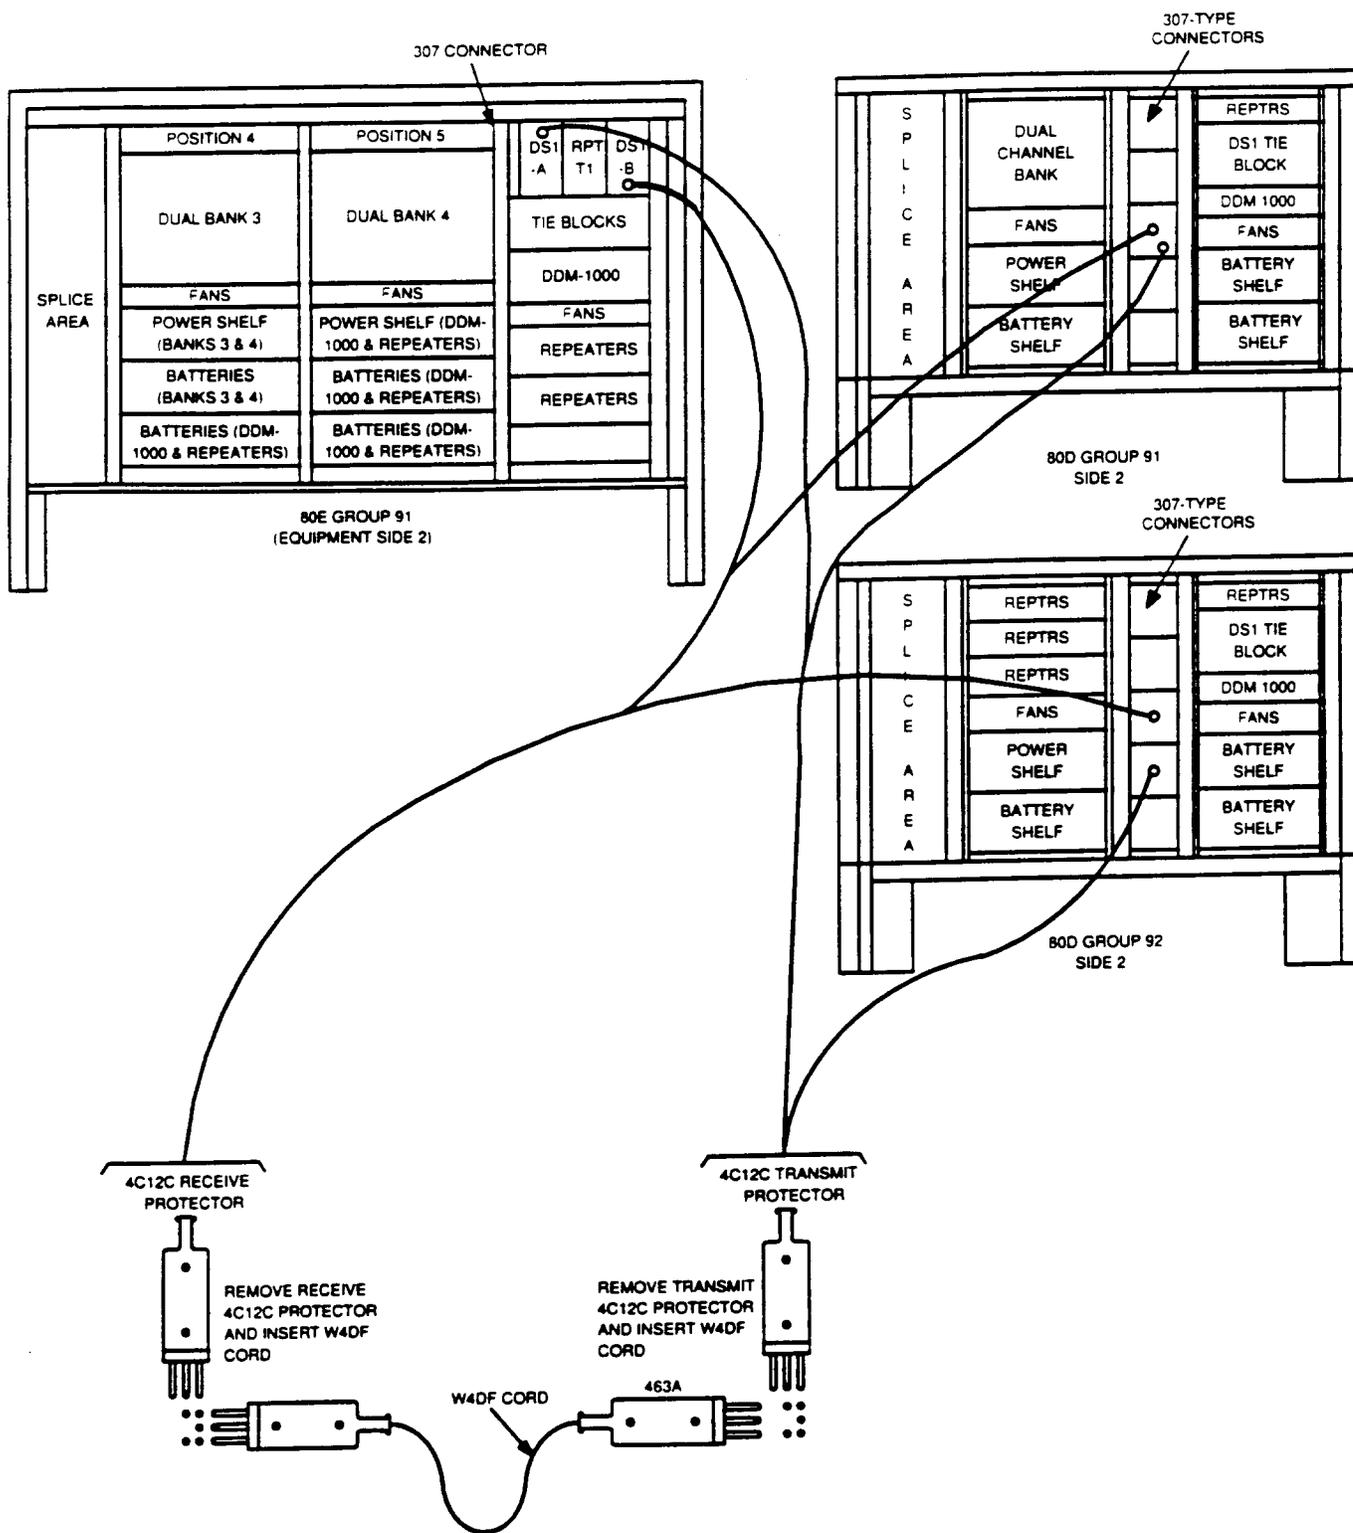

Figure 7—DSX-1 Level Access T1 Line Loopback For Far Ended Fault Locating
10. Use TABLE A, B, or C to find 4C12C (DSX-1 level) protectors for digital line to be looped. Replace 4C12C protectors with W4DF looping test cord (See FIG. 7). Insert 262C fault line terminating plug into appropriate FL jack on LDU unit.